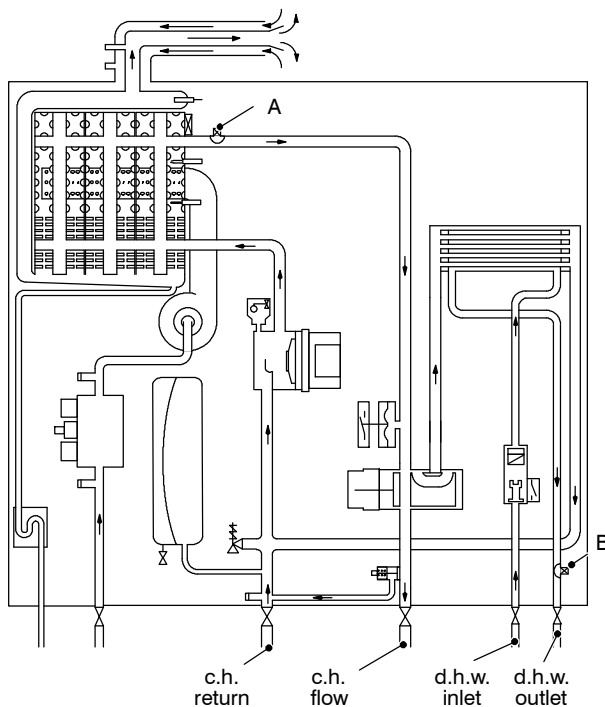
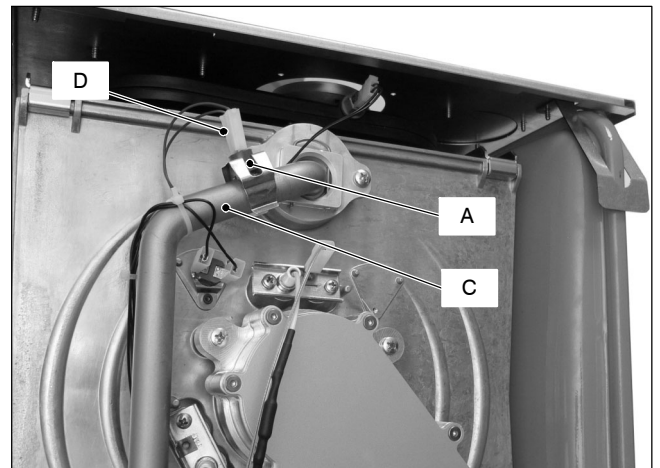
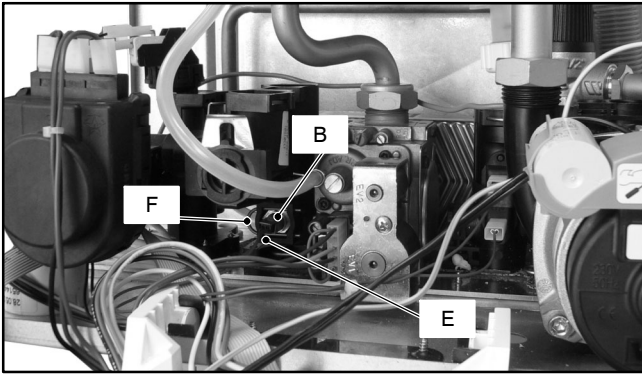

Fig. 15.2
Fig. 15.3
Fig. 15.4
On the boiler there are two Temperature probes. One on the output of the primary condensing heat exchanger (c.h. Temperature probe) *A* in Fig. 15.2 and Fig. 15.3; one on the output of the d.h.w. heat exchanger (d.h.w. Temperature probe) *B* in Fig. 15.2 and Fig. 15.4.
- 3 Remove the electric connector *D* and remove the c.h. Temperature probe *A* – Fig. 15.3
- 4 Remove the fork *F* and pull the d.h.w. Temperature probe *B* – Fig. 15.4